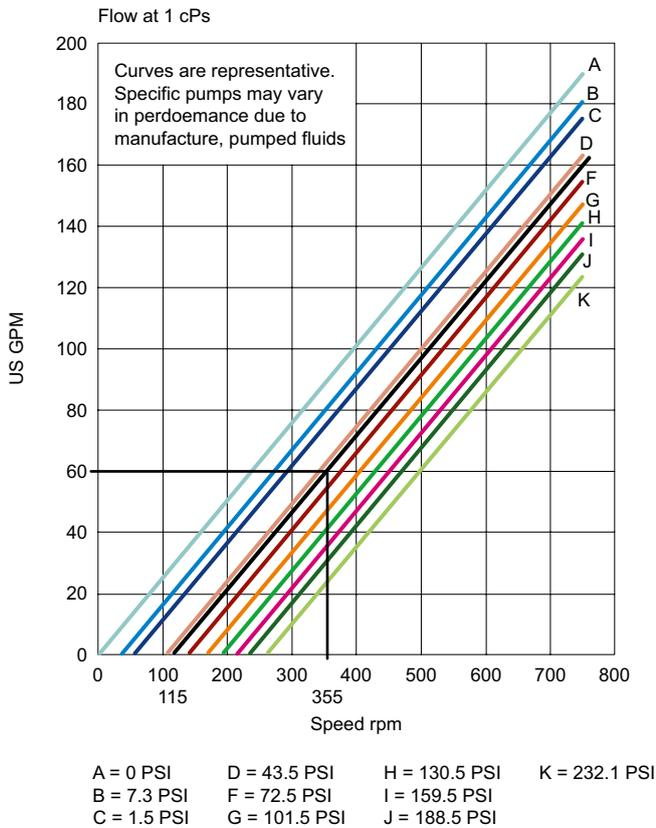

Fig. 7.6.3i
- Using the Flow at 1 cps curve (Fig. 7.6.3i), starting at the viscosity corrected DHS speed value of 115 rpm, draw a line parallel to the pressure lines